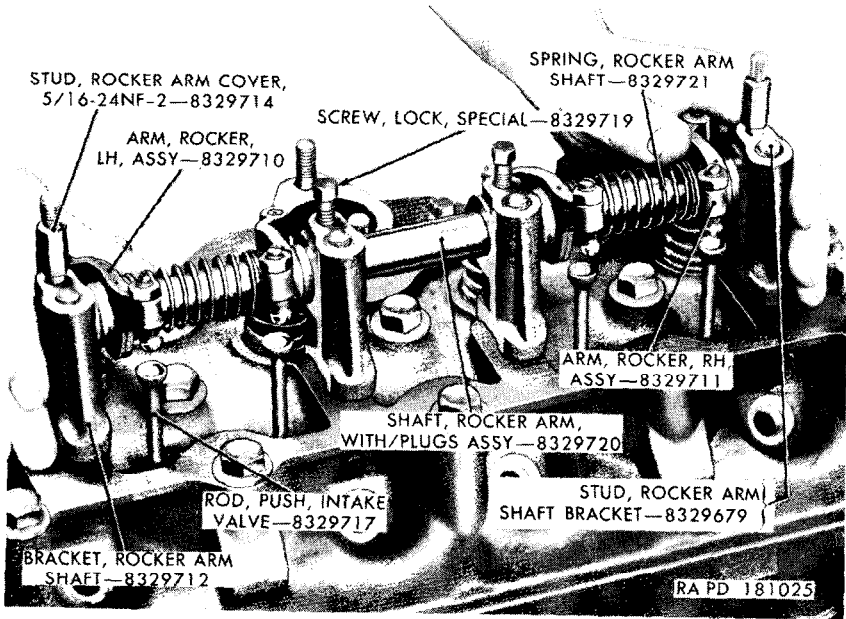

Figure 14. Removing rocker arm assemblies and related parts.
a. Remove the oil pan drain plug and gasket (K and L, fig. 13) and drain the oil pan. Remove the two nuts (V, fig. 70) from the rocker arm cover studs (fig. 14). From the front stud, remove three spark plug cable clips (U, fig. 70) and the copper rocker arm cover stud gasket (T, fig. 70). From the rear stud remove one spark plug cable clip and the copper gasket. Remove the rocker arm cover (S, fig. 70) and rocker arm cover gasket (X, fig. 70).
b. Unscrew and remove the two rocker arm cover studs (fig. 14) from the rocker arm shaft brackets at either end of the rocker arm assembly. Invert the studs and install them in the same openings, screwing them down to a snug fit. Remove the nuts from the rocker arm shaft bracket studs, and lift the rocker arm assembly up and off the studs. Lift the intake valve push rods out of the cylinder block.